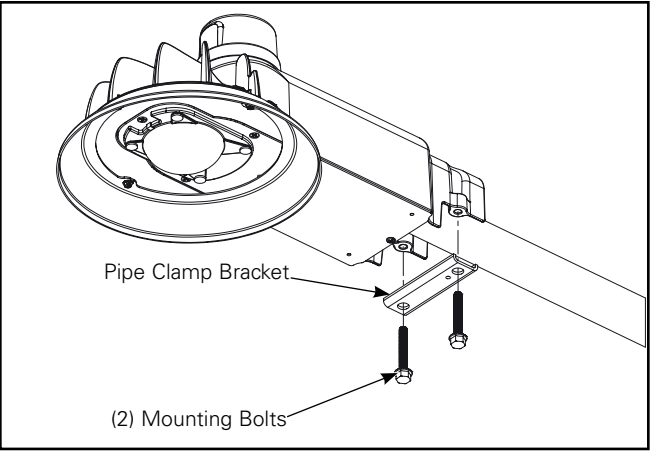

Figure 6.
3. With supply wires pulled through mounting pipe 6" to 8", tighten the two fixture mounting bolts using 1/2" socket. Tighten to 6-8 ft-lbs. (Figure 6.)